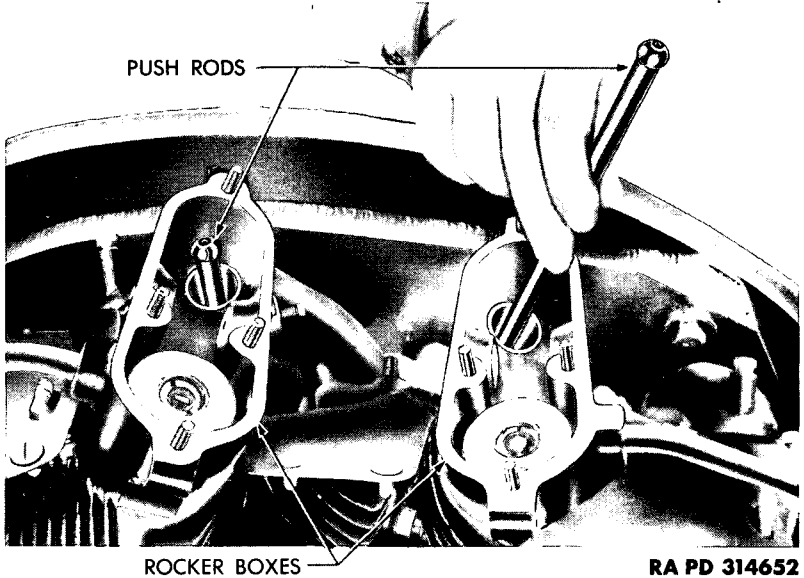

Figure 47 — Removing Push Rod
h. Remove Push Rods and Housings. Push rods are free after rocker arms are removed. Lift push rods out of push rod housings which connect each rocker box to a push rod adapter in the main crankcase (fig. 47). Each housing is attached to its rocker box and adapter by two hose and three clamps. Loosen hose clamp nearest the rocker box, using wrench (41-W-1986); then loosen hose clamp nearest crankcase. Slide the clamp and hose nearest rocker box away